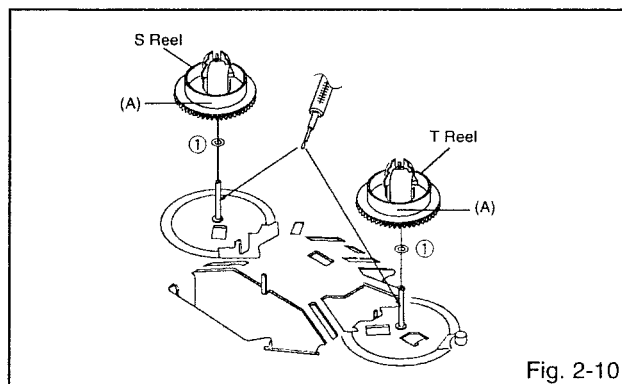

Fig. 2-10
2-10: S REEL/T REEL (Refer to Fig. 2-10)
4. Do not touch the section "A" of S Reel and T Reel. (Use gloves.) **(Refer to Fig. 2-10)** Do not adhere the stains on it.